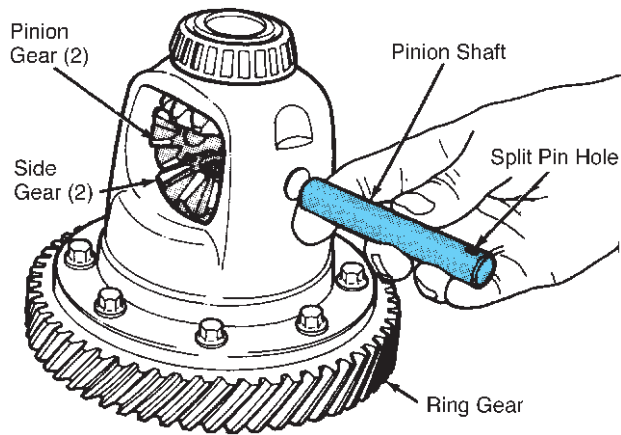

FIGURE 8-79 With the lock pin removed, the pinion shaft can be slid out of the differential case. (Courtesy of DaimlerChrysler Corporation)
2. Slide the pinion shaft out of the case and check it for step wear (Figure 8-79).